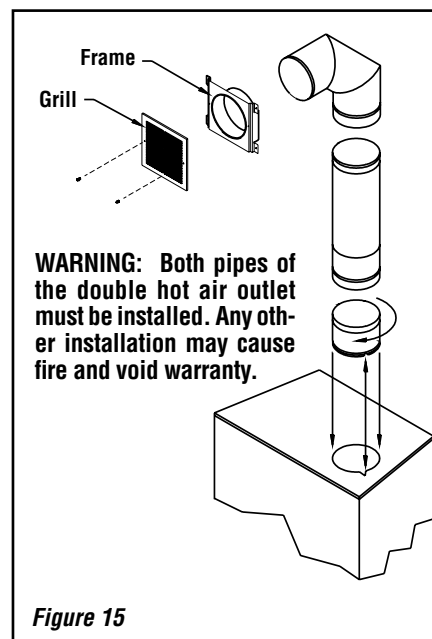

Figure 15
1. Remove the plates closing up the 8" dia. holes on top of the fireplace. Then, cut the insulation in order to obtain two 8" dia. openings. Fix the adaptors on the fireplace openings by turning clockwise (**Figure 15**).